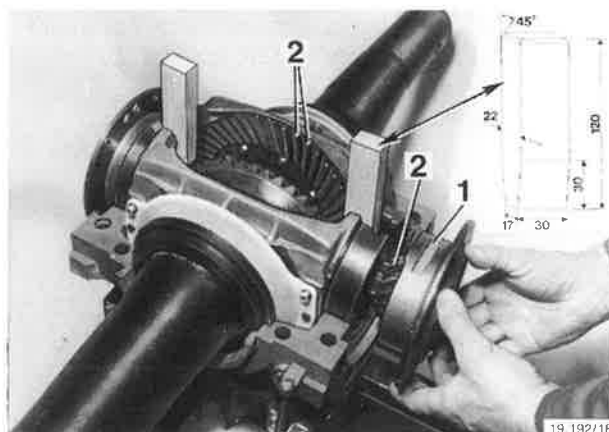

Fig. 16
- 17 Place half-axes in horizontal position and spread apart with 2 hardwood wedges (self-produced acc. to measures from fig. 16). Insert bearing flanges - oil pocket (16/1) pointing upwards - with pinion onto differential bevel gears and between the half-axes resp. in a way that marking on crown wheel (16/2) lines up with that on pinion.